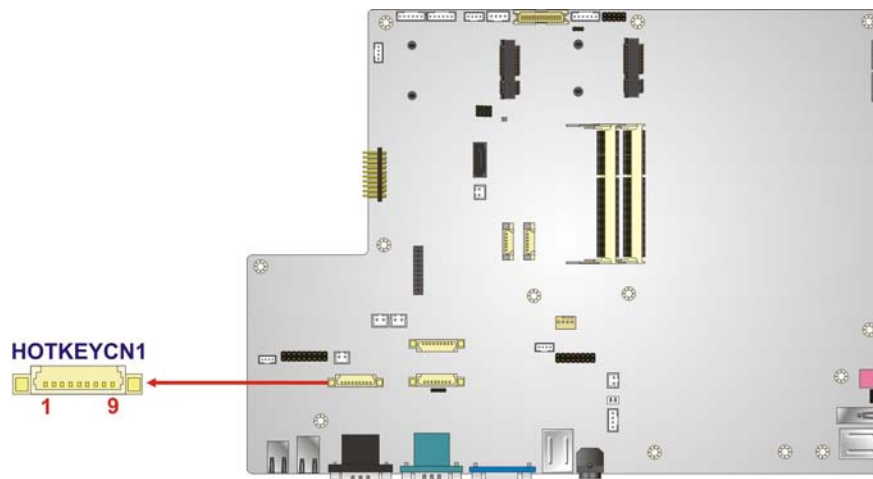

Figure 5-13: Hotkey Connector Location
- CN Location: See **Figure 5-13**